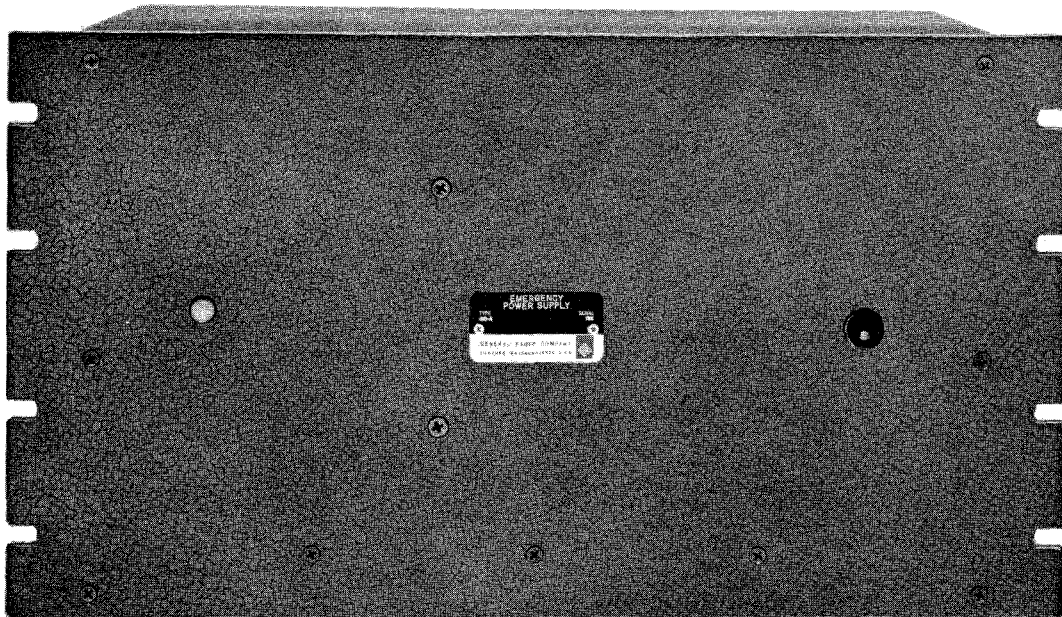

Figure 1. Type 1116-B Emergency Power Supply.
1.1 PURPOSE. The Type 1116-B Emergency Power Supply (Figure 1) is a combination inverter and switching device, which, when used with a 28 - 32-volt storage battery, provides continuity of 115-volt ac supply despite interruption of normal power service. Although primarily designed as an emergency supply for the Type 1120-A Frequency Standard, the Type 1116-B can operate any 115-volt, 60-cps equipment within its continuous power rating of 180 watts. When used with the Type 1120-A (or its predecessor, Type 1100-A)*, the unit powers the three major components in the system for which continuous operation is important. They are: